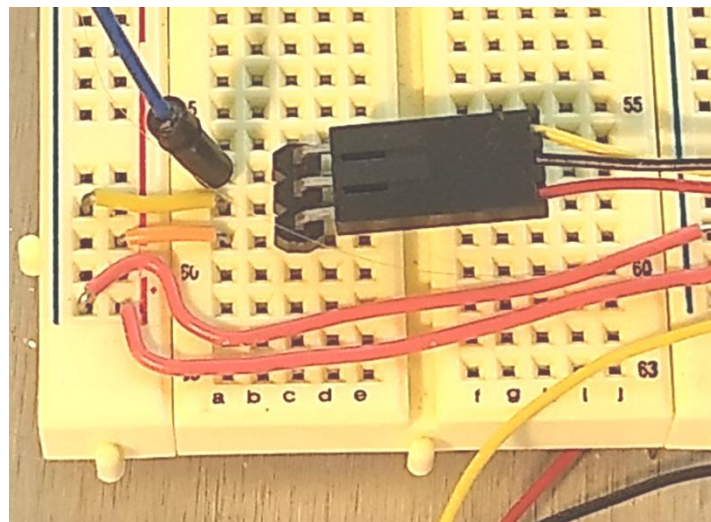

Figure 6. Connecting the older-style sensor leads to the bent three-prong connector. **Red** goes to power; **black** to ground; **yellow** to resistor.
5. Connect the wire harness to the three-prong connector, as shown in Figures 6 and 7. *NOTE: Be sure to align the colored wires exactly as shown.*